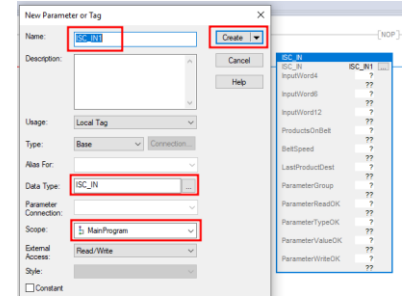

Figure 36: New Data Type AOI_ISC_CAM_v2_INPUTS
22. Create a data type for the AOI to store data. Double click in the “AOI_ISC_CAM_v2_INPUTS” field and type a unique data type name, then right click on the name, and select “New xyz.” The “Data Type” shall be AOI_ISC_CAM_v2_INPUTS to match the AOI. Make sure the scope of the program is correct and click create, Figure 36.
27. Create a data type for the AOI to store data. Double click in the “AOI_ISC_CAM_v2_OUTPUTS” field and type a unique data type name, then right click on the name, and select “New xyz.” The “Data Type” shall be AOI_ISC_CAM_v2_OUTPUTS to match the AOI. Make sure the scope of the program is correct and click create, like Figure 36.